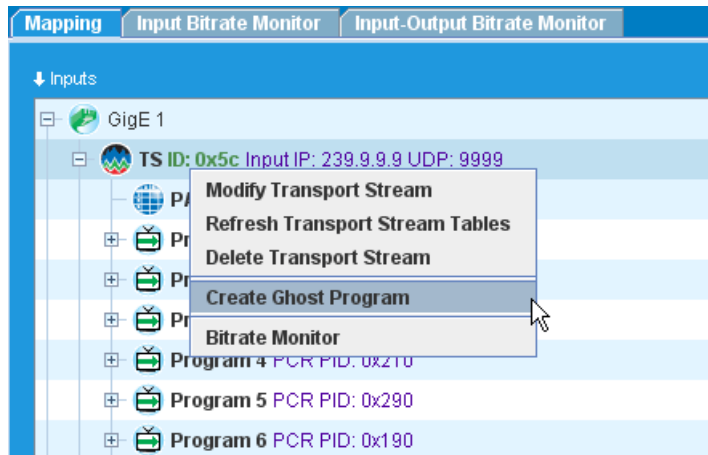

Figure 165. Choosing a Ghost Program
2. Right click the transport stream and choose **Create Ghost Program** from the pop-up window (Figure 165).